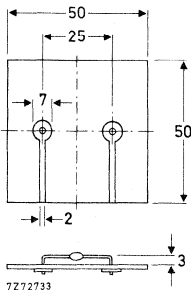

Fig. 2 Mounted on a printed-circuit board.
2. Thermal resistance from junction to ambient when mounted on a 1,5 mm thick epoxy-glass printed-circuit board; Cu-thickness $\geq 40\text{ }\mu\text{m}$; Fig. 2.